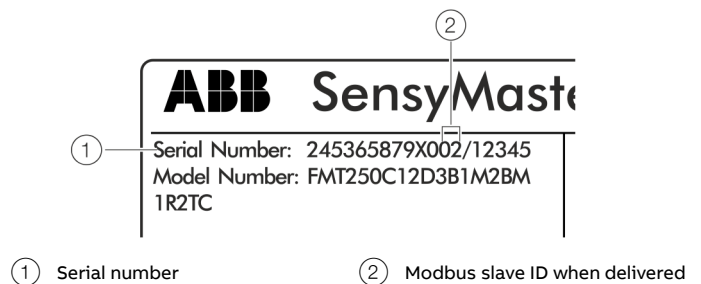

Figure 43: Modbus-address on the name plate (example)
Upon delivery, the Modbus Slave ID corresponds to the last two digits of the serial number of the device (see Figure 43, item ②).